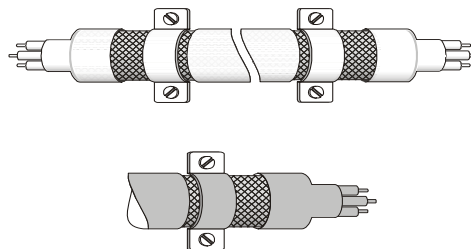

Figure 2
3. The shielding net of motor cable and the plate must be connected correctly. The shielding net on the two ends of motor cable should be fixed by the metal saddle and the plate. See figure 2 for correct connection.